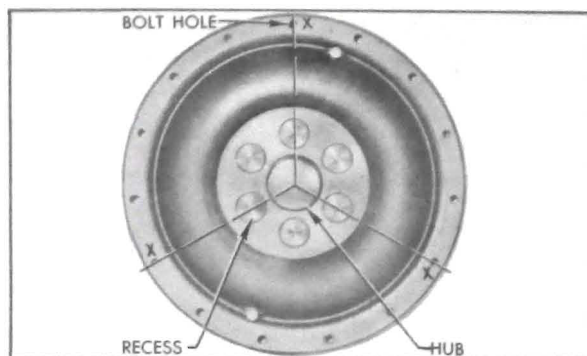

Figure 5-107—Location of Driving Bolt Holes
17. Looking at front face of converter pump cover, select the three bolt holes (X) that are aligned with the center of the hub and one of the counterbored recesses adjacent to hub. Mark these holes for later installation of the flywheel-to-pump driving bolts. See figure 5-107.